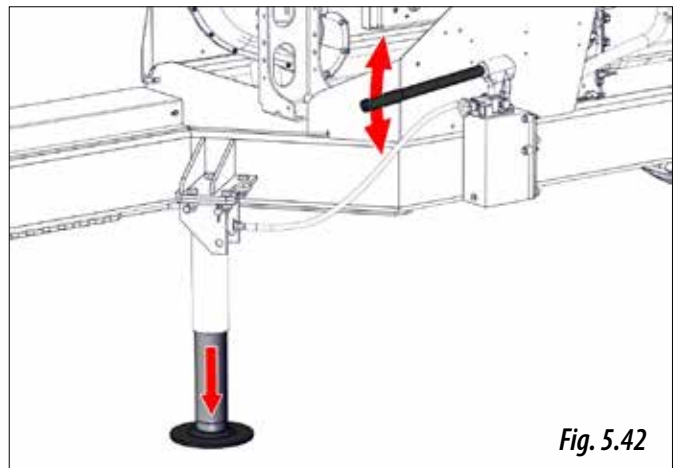

Fig. 5.42
- 3- Use the lever to adjust the leg height (Fig. 5.42).